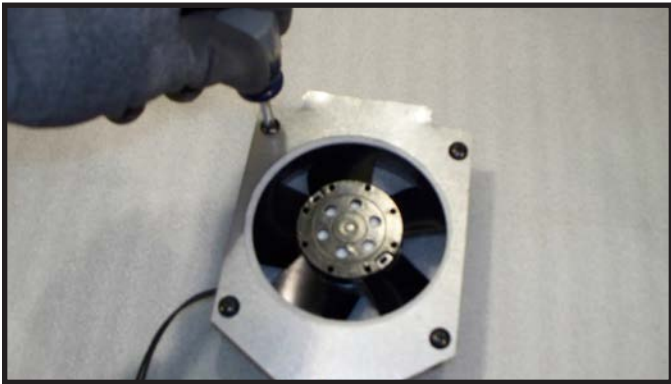
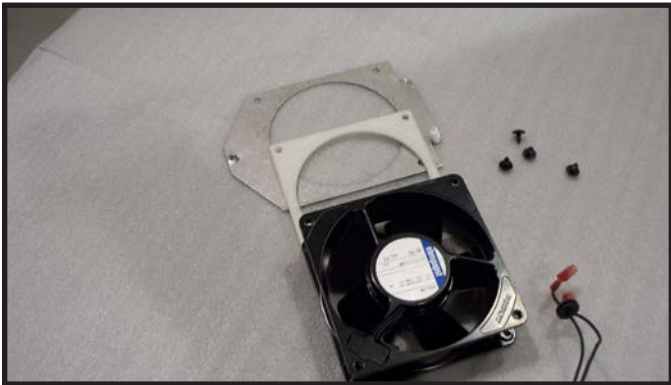

Figure 12.11 Remove Mounting Plate
Figure 12.12 Remove Mounting Plate
8. Remove mounting plate from blower by removing the four screws that hold the blower to the plate. Save the gasket for use with the new blower. See Figure 12.11 and Figure 12.12.